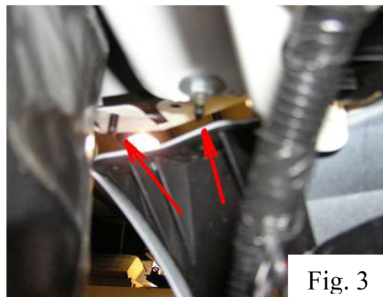

Fig. 3
- 7) Remove the two nuts that retain the front bumper to the front fender on each side. These nuts are located at the very back corners of the bumper and are accessible from inside the fender wells (Fig. 3).